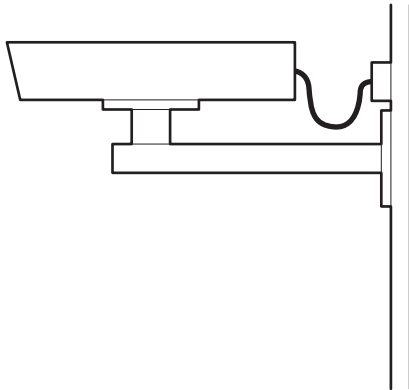
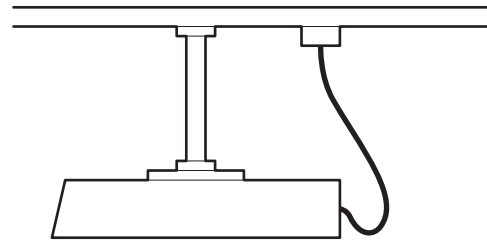

Figure 10. Typical Fixed Wall Mounting
Figure 11. Typical Fixed Ceiling Mounting
- Always use a service loop, as shown in Figure 10 and Figure 11 to further prevent water leakage.